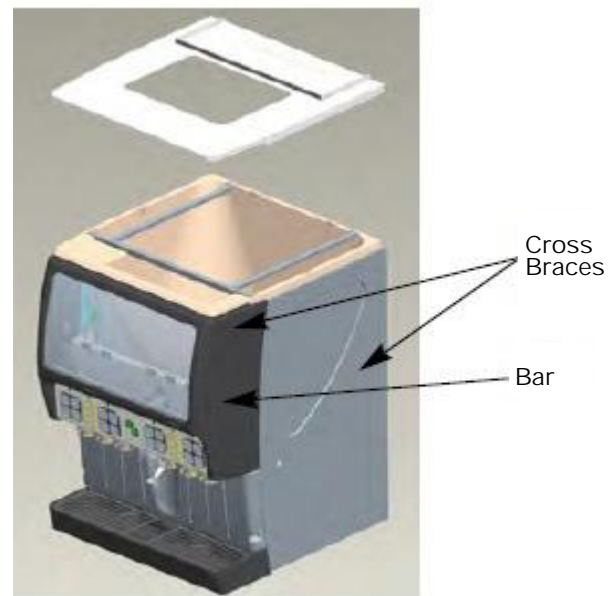

Figure 2
3. Hook cross braces over top of bar and place into inner pockets inside the hopper (see Figure 2).